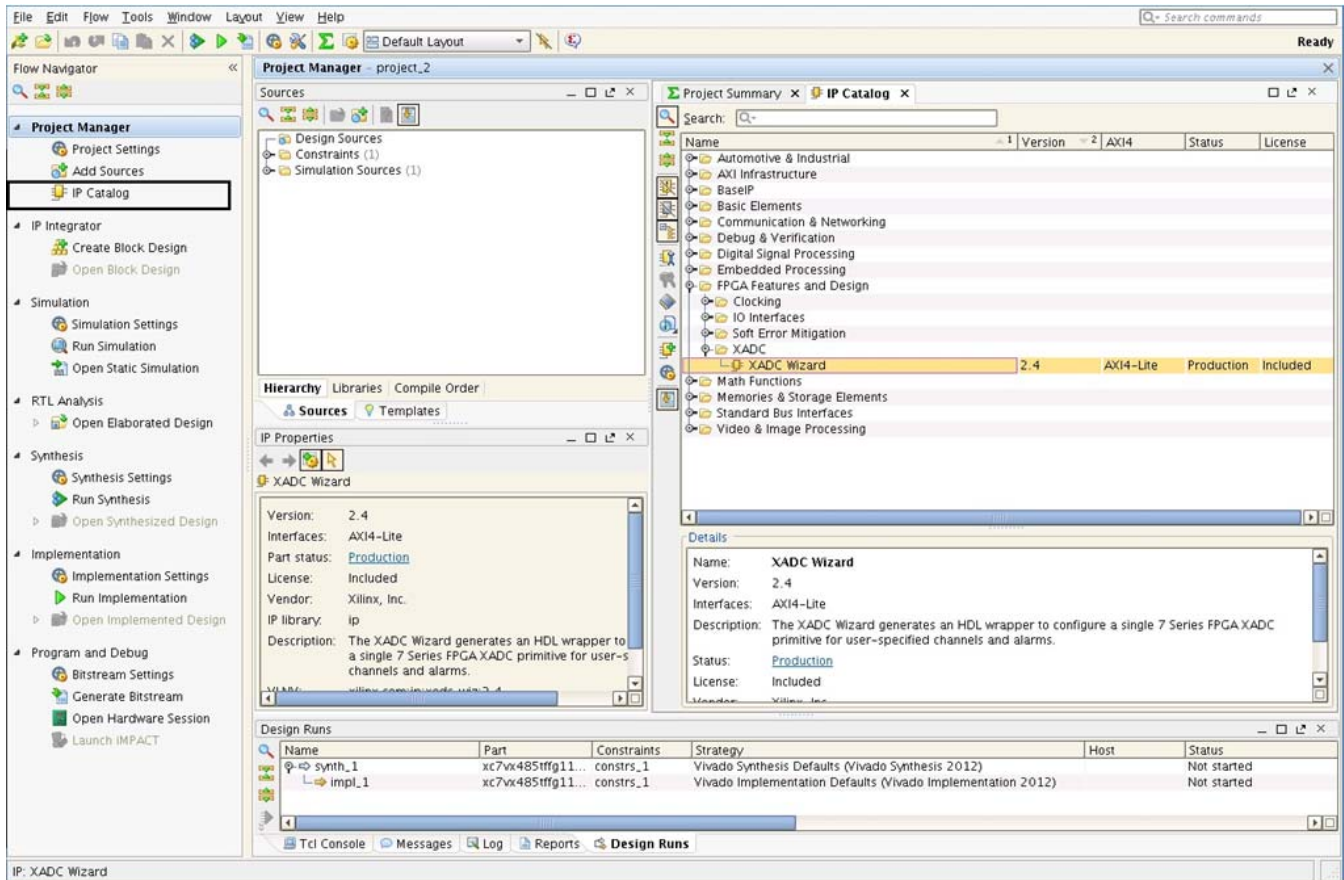

Figure 1-2: Vivado IP Catalog
2. After creating a new 7 series family project or opening an existing one, the IP catalog appears at the right side of the window, as shown in Figure 1-2.